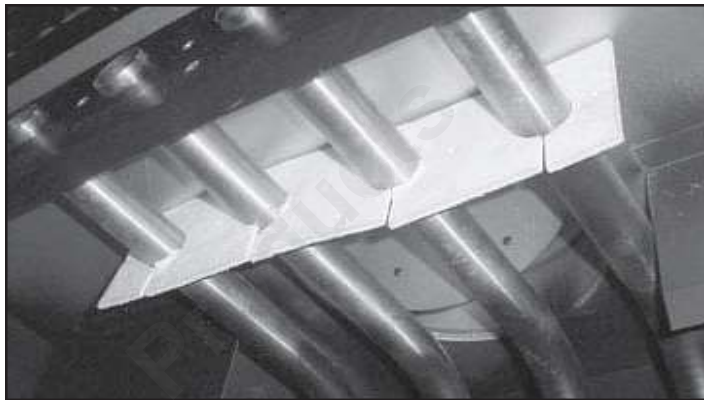

Figure 12 Place Insulation Behind Smoke Shield, On Tubes
- Place insulation behind smoke shield on top of the tubes and slide forward tight against the back of the smoke shield (see Figure 12). This will be a friction fit, use care not to damage insulation. Do not tear insulation around tubes. Two pieces of insulation have been included with kit in case of damage during installation.